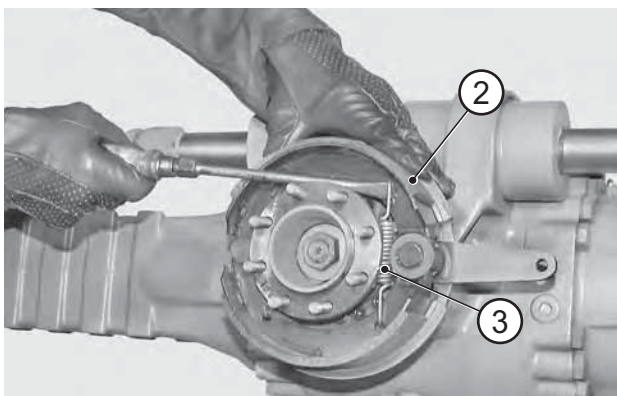

FIGURE 19: Make sure that the shoes (4) center the slot of the fulcrum pin and rest on the surface of the lever (6).
FIGURE 19: Introduce pressure into the cylinder (4) and, with the levers (28) resting against the adjustment studs (27), screw rod (6) to engage the quick release (7) in the slot.